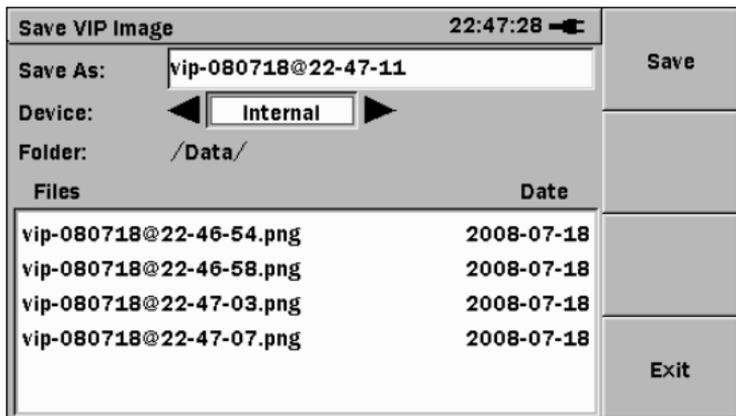

Figure 5-9: Save VIP Image screen
2. Press **Capture (F2)**, the Save VIP Image screen appears (see Figure 5-9 on page 5-11).